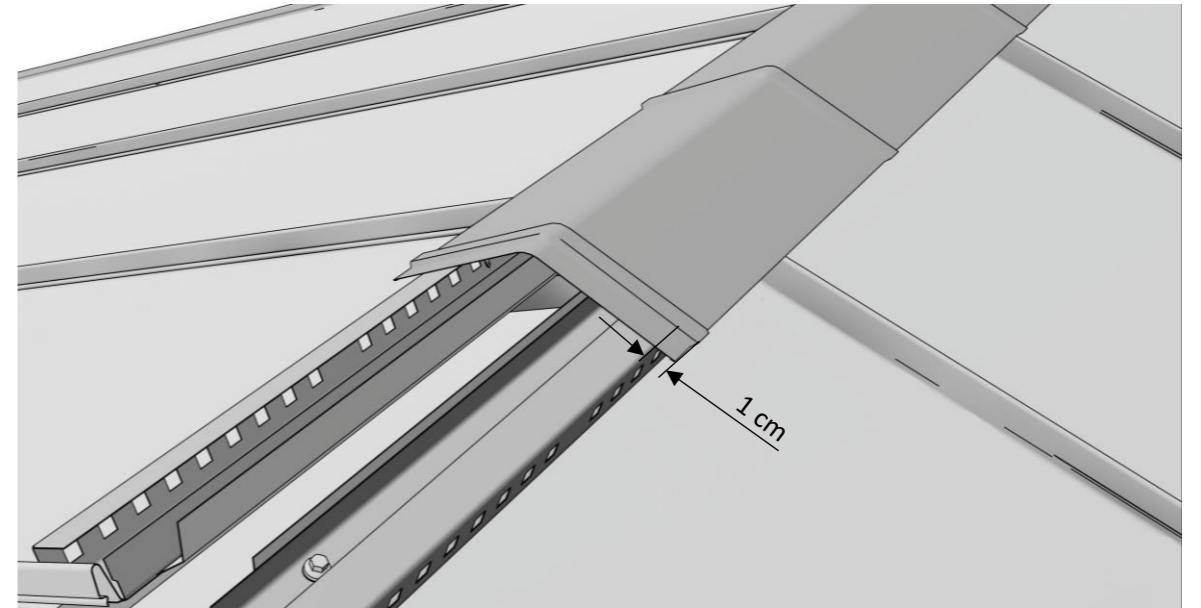

Fig. 23
- Position the vent profiles, so that the edges of the ridge cap protrude approx. 1cm beyond the edges of the vent profiles (Fig. 23).